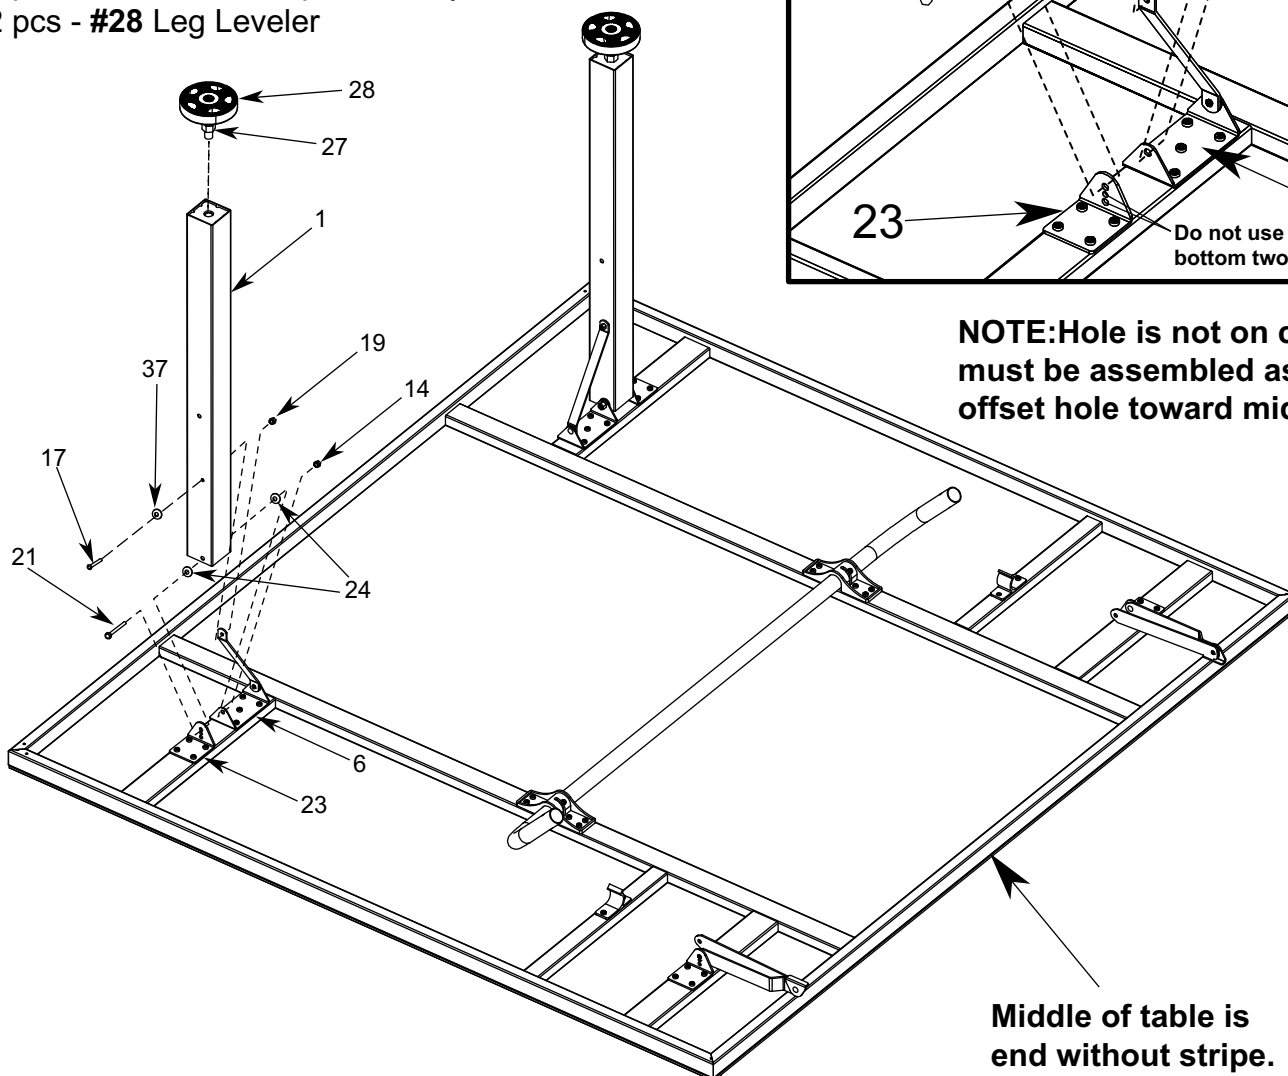

Figure 4
4. A) Attach two Square Legs (#1) between Leg Mounting Brackets (#23) and Leg Mounting Bracket & Brace Assemblies (#6) using two Hex Head Bolts (#21), four Plastic Flat Washers (#24) and two Locknuts (#14) as shown in **FIGURE 4 & DETAIL A**.
Attach middle holes of two Square Legs (#1) to Leg Mounting Bracket & Brace Assemblies (#6) using two Phillips Rd. Hd. Bolts (#17), two Flat Washers (#37) and two Locknuts (#19) as shown in **FIGURE 4 & DETAIL A**.
B) Install one Hex Nut (#27) to each Leg Leveler (#28). Then install Leg Levelers to Square Legs as shown in **FIGURE 4**.